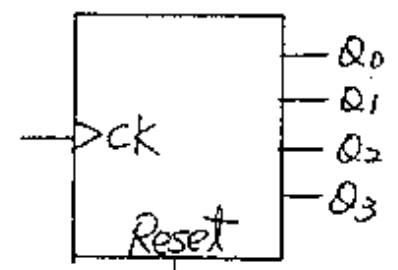

Fig. 5.2
- (e) (5%) Using the block diagram of 4 bits binary counter with asynchronous reset (Fig.5.2) and some logic gates to design a modulo-12 counter.